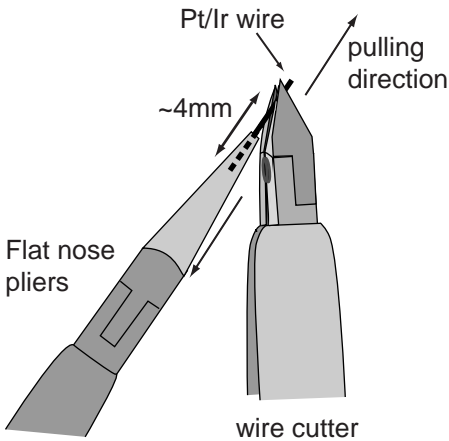

Figure 3-1: Cutting the STM tip
- 2 Holding the wire with the pliers, move the cutters at a length of approximately 4 mm, as obliquely as possible (*Figure 3-1: Cutting the STM tip*).
- 4 Pull in the direction shown in *Figure 3-1: Cutting the STM tip*. The tip needs to be torn off rather than cleanly cut through, in order to obtain the required tip sharpness.